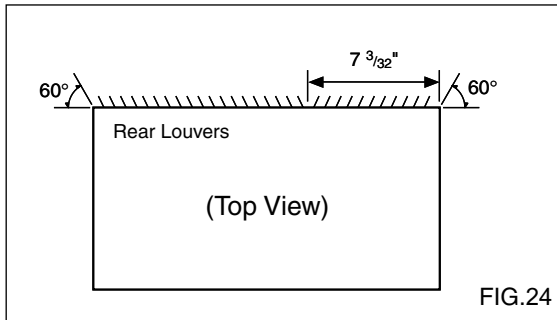

FIG. 24
- 1** Redirect the louvers at the back of the wall sleeve to 60° angle as shown in the FIG 24. The use of pliers is recommended.